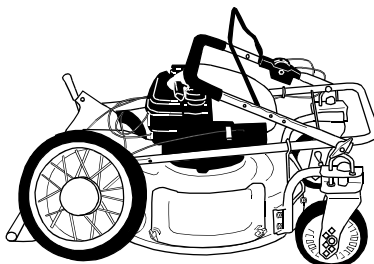

FIGURE 14
- You can fold your mower's handle for convenient storage as shown in Figure 14.